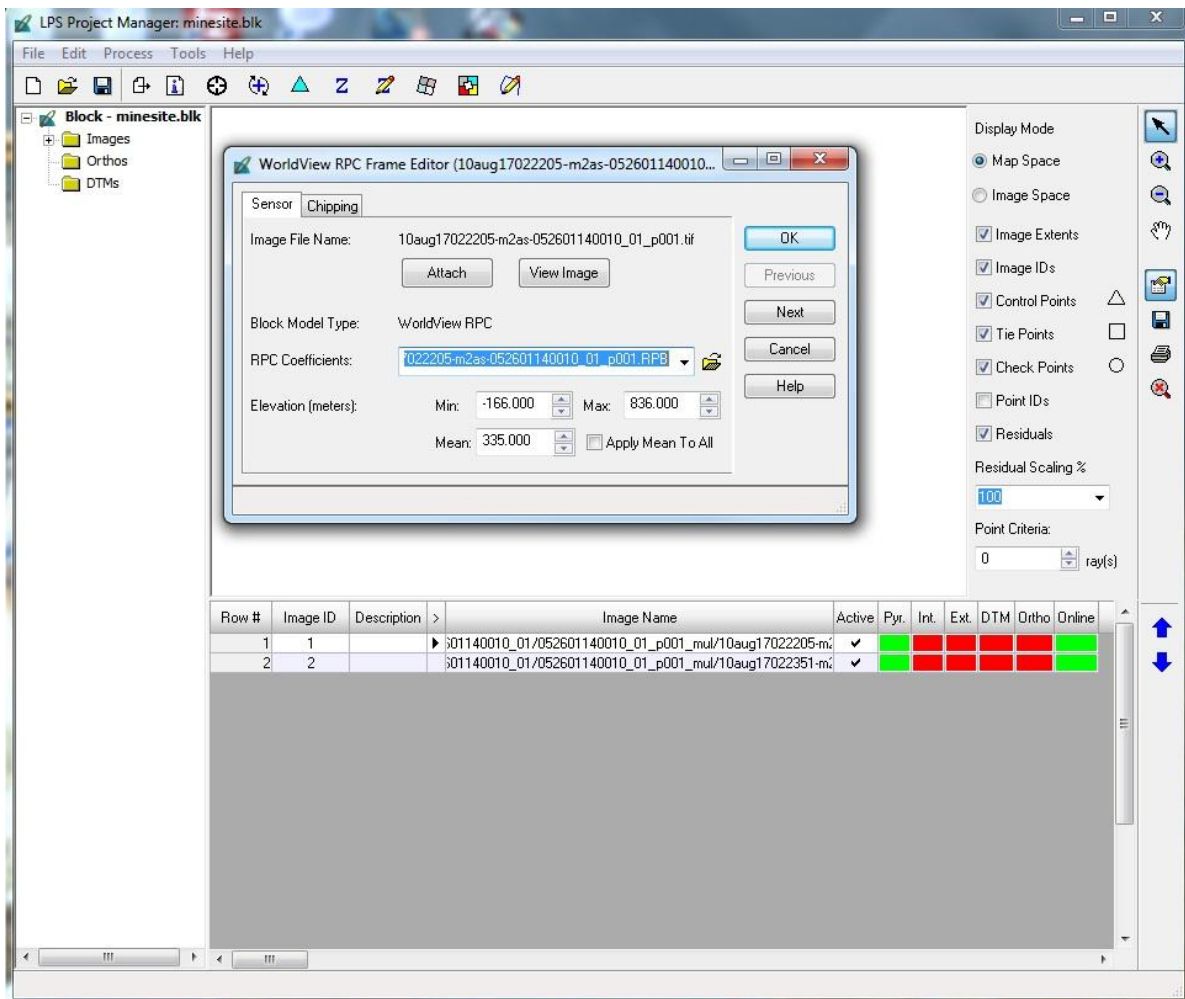

Fig.6. WorldView RPC Frame Editor Window
- To do so click on under the **Int.** in the **red box** next to the first image in the pair. See Fig.6
The WorldView RPC Frame Editor Window will appear. The image will automatically populate in the **Image File Name** (See Fig.6). The **RPC Coefficients** file will also automatically populate if the RPB file (File containing RPC information) is in the same folder as the imagery. (Fig.6). **Elevation** (meters) information is pulled from the RPB file and populated here. In this example we'll select the defaults. And Click **OK**. Repeat the process (page 6 and 7) for assigning the RPC model to the second image (right image in pair) in the list by clicking on the red box next to the second image in the *Int* column.